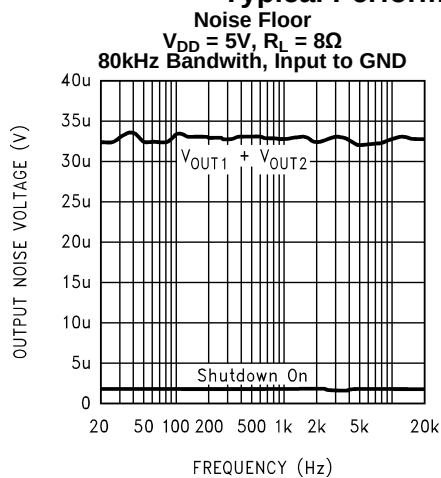

Figure 10.
- (1) Absolute Maximum Ratings indicate limits beyond which damage to the device may occur. Operating Ratings indicate conditions for which the device is functional, but do not ensure specific performance limits. Electrical Characteristics state DC and AC electrical specifications under particular test conditions which ensure specific performance limits. This assumes that the device is within the Operating Ratings. Specifications are not ensured for parameters where no limit is given; however, the typical value is a good indication of device performance.
- (2) If Military/Aerospace specified devices are required, please contact the Texas Instruments Sales Office/ Distributors for availability and specifications.
- (3) If the product is in Shutdown mode and V_{DD} exceeds 6V (to a max of 8V V_{DD}), then most of the excess current will flow through the ESD protection circuits. If the source impedance limits the current to a max of 10mA, then the device will be protected. If the device is enabled when V_{DD} is greater than 5.5V and less than 6.5V, no damage will occur, although operation life will be reduced. Operation above 6.5V with no current limit will result in permanent damage.
- (4) The maximum power dissipation must be derated at elevated temperatures and is dictated by T_{JMAX}, θ_{JA} , and the ambient temperature T_A. The maximum allowable power dissipation is P_{DMAX} = (T_{JMAX}–T_A)/ θ_{JA} or the number given in Absolute Maximum Ratings, whichever is lower. For the LM4906, see Figure 10 for additional information.
- (5) Maximum power dissipation in the device (P_{DMAX}) occurs at an output power level significantly below full output power. P_{DMAX} can be calculated using Equation 1 shown in the Application Information section. It may also be obtained from the power dissipation graphs.
- (6) Human body model, 100pF discharged through a 1.5k Ω resistor.
- (7) Machine Model, 220pF–240pF discharged through all pins.